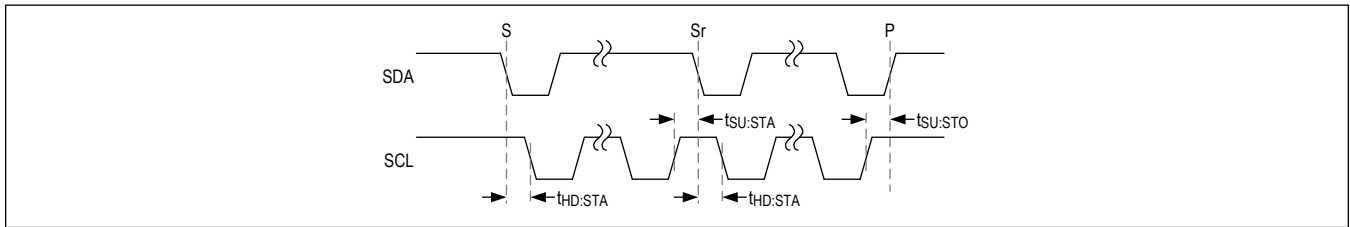

Figure 5. START, STOP, and REPEATED START Conditions
A controller device initiates communication by issuing a START condition. A START condition is a high-to-low transition on SDA with SCL high. A STOP condition is a low-to-high transition on SDA while SCL is high (see Figure 5). A START (S) condition from the controller signals the beginning of a transmission to the MAX16984A. The controller terminates transmission, and frees the bus, by issuing a STOP (P) condition. The bus remains active if a REPEATED START (Sr) condition is generated instead of a STOP condition.